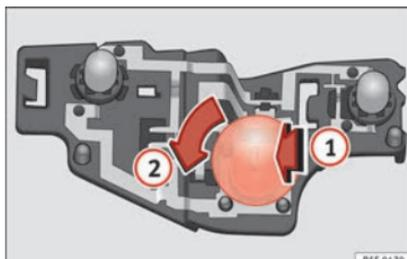

Fig. 114 Position of the bulbs in the bulb holder
- Lightly press the defective bulb into the bulb holder **(1)**, then turn it to the left **(2)** and remove it » **Fig. 114**.